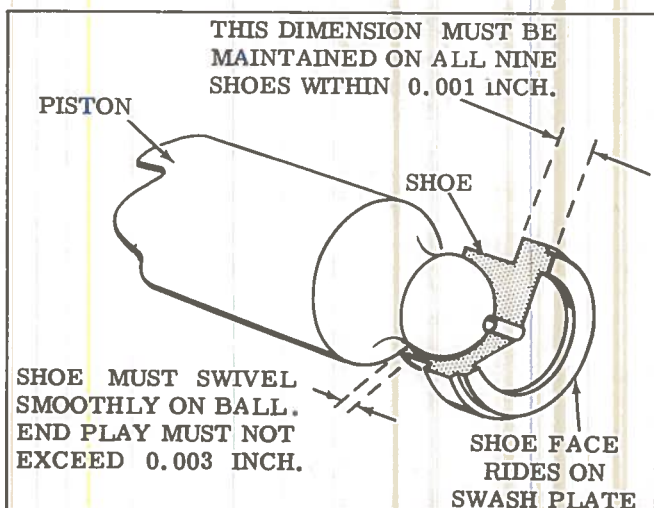

Figure 6. Piston and Shoe Assembly Tolerances
f . Inspect each piston and shoe subassembly (21) for a maximum end play of 0.003 inch between the piston and shoe. The face thickness dimension, as shown in Figure 6, of each shoe must be within 0.001 inch of each other. A variation greater than 0.001 inch between all nine shoes indicates excessive wear. If one shoe needs replacement, replace all piston/shoe subassemblies. Replacement as a matter of procedure is recommended to obtain maximum overhaul life of the unit.